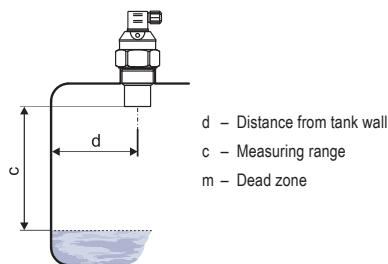

Fig. 3: Installation distance from the tank wall
- Minimum dimension parameters when installing into a lid or a ceiling of a tank are listed in Fig. 3.